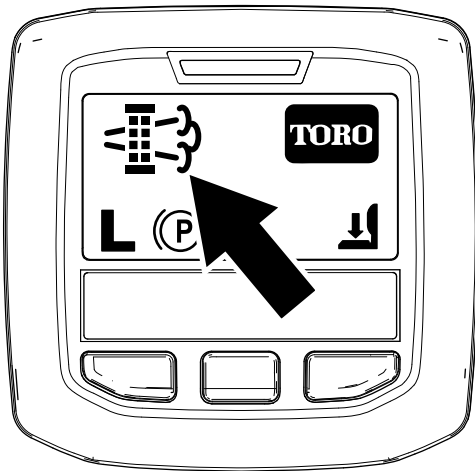

Figure 47
- When the engine computer requests either a parked regeneration or a recovery regeneration, the regeneration request icon (Figure 47) displays in the InfoCenter.